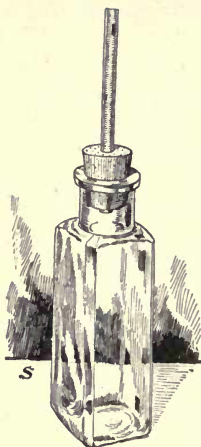

FIG. 124.
**Exercise 10.** Set a glass bulb with a long stem in a vessel of water. A bottle with a stopper arranged as shown in Figure 124 may be used. Lay the hand on the bulb or heat it with a lamp. What emerges\* from the mouth of the tube? Is there now as much air in the bulb as there was when the air was cold? Has the air in the bulb lost in weight?